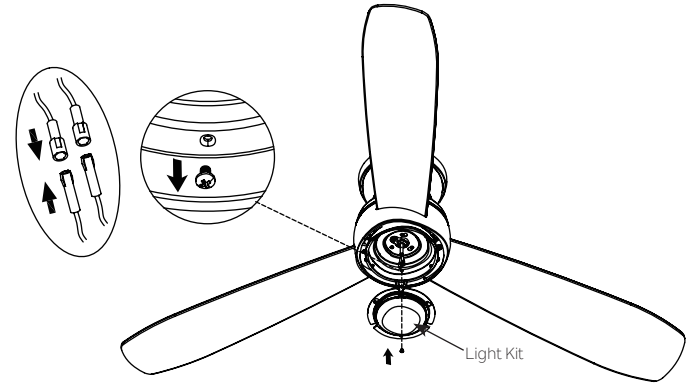

Fig. 15
Step 1. Hold the light kit close to the switch housing and connect the WHITE wires from the light kit and fan by pushing the connectors together. Follow the same procedure with the BLACK wires. (Fig. 15)
Step 2. Tuck the connections neatly into the light kit. Remove one of three screws pre-installed on the switch housing and keep for later use. Loosen the other two (do not remove). Place the two slot holes on the light kit over the 2 screws previously loosened from the switch housing. Rotate the light kit until it locks in place at the narrow end of the key holes. Secure by tightening the 2 screws previously loosened and the one previously removed. (Fig. 15)